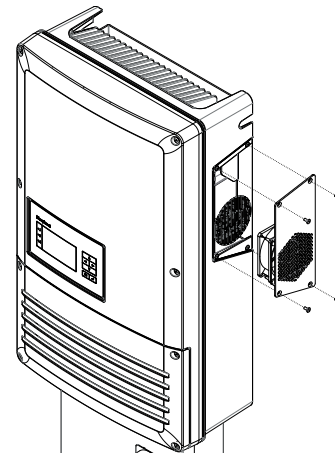

Figure 15: Removing the side housing cover
3. Unscrew the Torx crews of the side housing cover (Figure 15 on page 50).